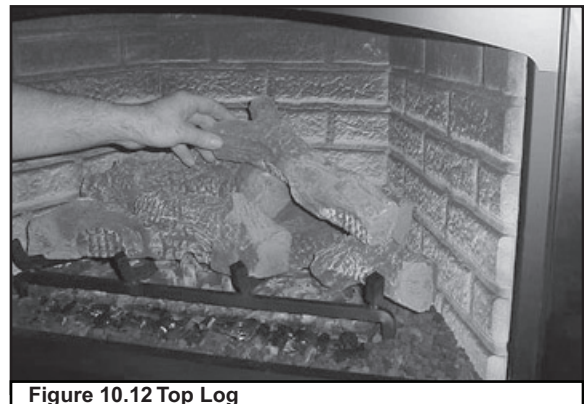

Figure 10.12 Top Log
- Place the top log so the right side of the log fits into the notch on the right front log and the left side rests on the top of the back log. See Figure 10.12.